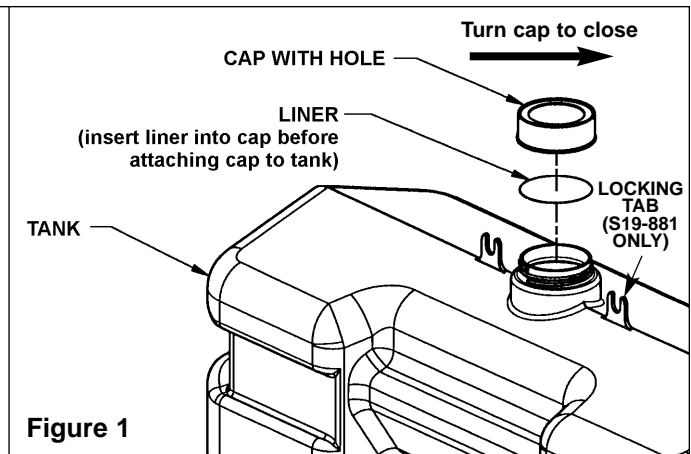

Figure 1
4. Insert one liner into the cap with hole and attach the cap to the top of the eye wash tank (make sure the cap is tightly closed) (see Figure 1).
- S19-881 ONLY: Make sure that the locking tabs are in front of the pedestal (see Figure 1). Raise the arm to snap fit in an upright position (this will automatically release the pinch).